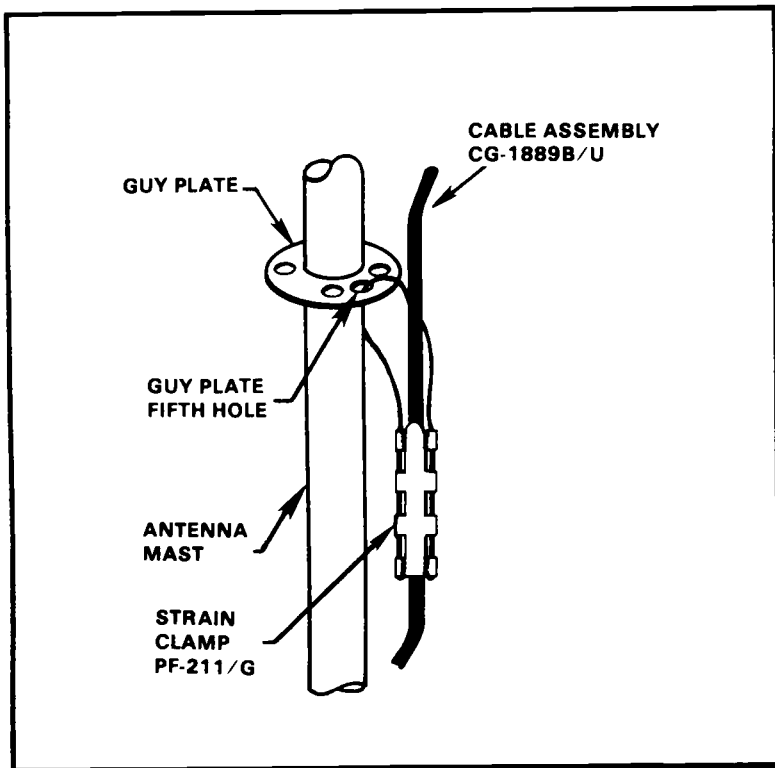

Figure 3-13. Strain clamp closed.
- c. Compress and open the strain relief clamp. Pass the cable of the clamp through the fifth hole of the upper guy plate (Figure 3-13). Secure the cable in the clips of the clamp.